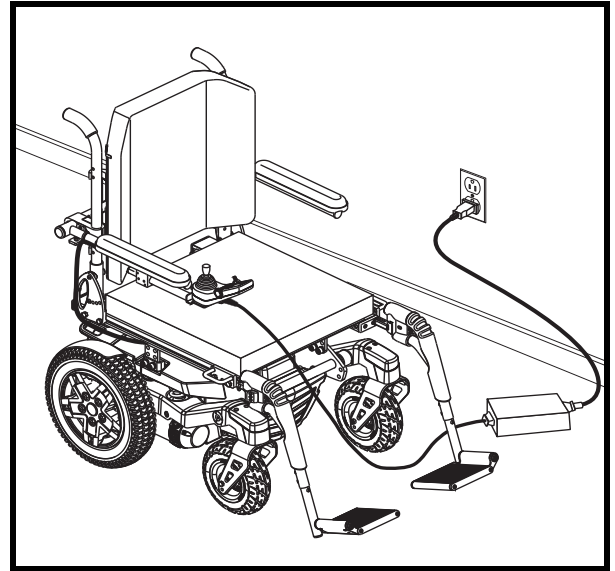

Figure 17. Battery Charging
3. Plug the off-board charger into the off-board charger/programming socket on the controller. **See figure 17.**